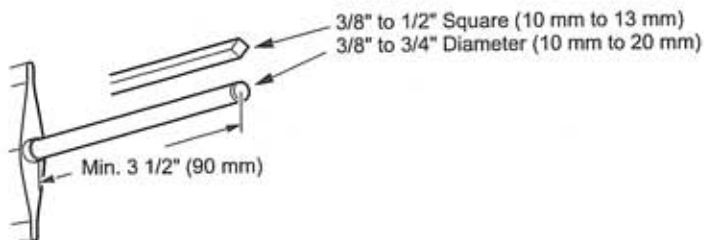
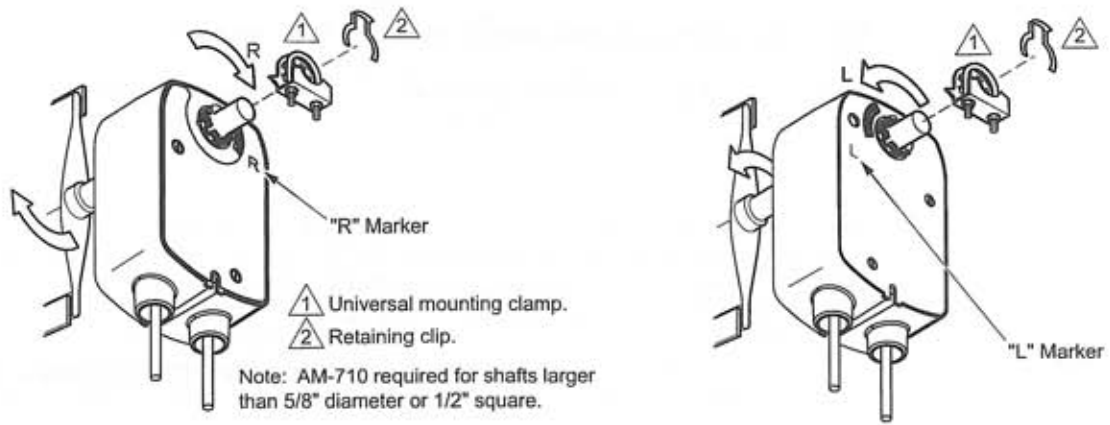
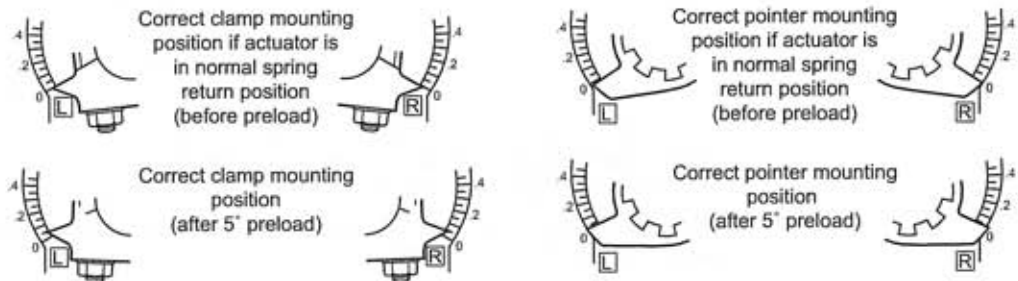
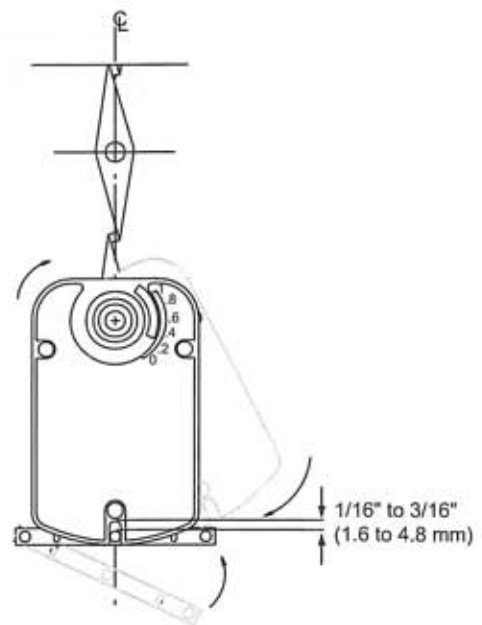

Figure-4 Long Damper Shaft Dimensions.
Figure-5 Long Damper Shaft with Clockwise or Counterclockwise Spring Return.
Figure-6 Universal Clamp and AM-709 Pointer (optional) Positions Indicating Normal Spring Return and Pre-load Settings for the MX40-704X Series.
Figure-8 Anchoring the Actuator with the Universal Bracket.
Refer to Figure-4 for shaft dimensions, and to Figure-5 through Figure-8 for mounting.
1. The universal clamp must be attached to the actuator by the retaining clip (Figure-5).
3. Slide the actuator over the shaft and verify that the position indication pointer on the universal clamp is in the normal spring return position (Figure-6). Tighten the universal clamp, finger tight only.
7. Loosen the universal clamp, making sure not to move the damper shaft. Rotate the actuator approximately 5° in the direction which would open the damper (Figure-8).
8. Tighten the universal clamp to the damper shaft. Make sure the universal clamp is in the correct mounting position (Figure-6).
9. Manually rotate the actuator to align with universal bracket (Figure-6) and (Figure-8).
10. Pivot the universal bracket into place and secure both sides (Figure-8).
6. Slide the actuator over the shaft and verify that the position indicator is pointing to the normal spring return position (Figure-6). Tighten the universal clamp, finger tight only.
9. Pivot the universal bracket away from the actuator (Figure-8).
10. Loosen the universal clamp, making sure not to move the damper shaft. Rotate the actuator approximately 5° in the direction which would open the damper (Figure-8).
12. Manually rotate the actuator to align with universal bracket (Figure-6 and Figure-8).
13. Pivot the universal bracket into place and secure both sides (Figure-8).